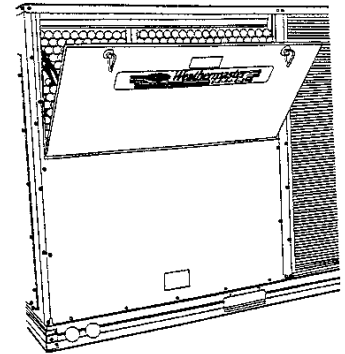

FIGURE 9
2. Slide filters (located in the hinged access panel) out of unit. Replace if dirty. **See Figure 9.**